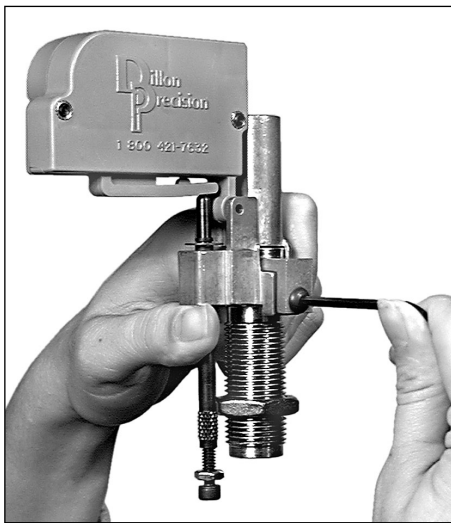

FIG 53
1. Loosen the die clamp screw **FIG 53** and remove the die.